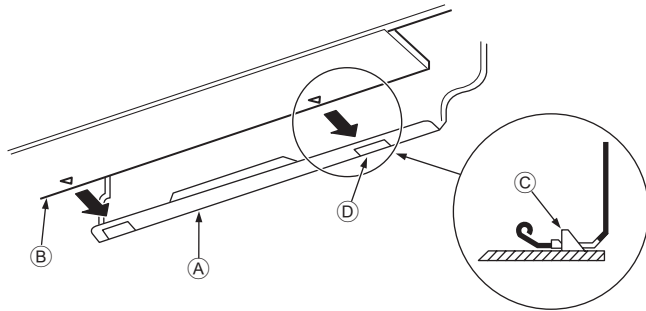

Fig. 3-15
3. While inserting the refrigerant piping and drain hose into the wall penetration hole (penetration sleeve), hang the top of the indoor unit to the mount board ①.
5. Fasten by pushing the bottom part of the indoor unit onto the mount board ①. (Fig. 3-15)
- * Check that the knobs on the bottom of the indoor unit are securely hooked into the mount board ①.
- ① Mount board ①
② Indoor unit
③ Hook
④ square hole